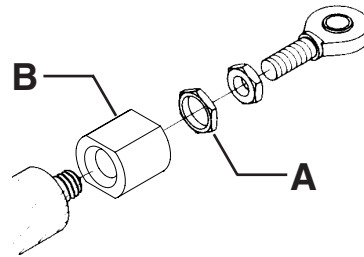

Fig. 43
3. Loosen jam nut **A** and adjust collar **B** IN to move boom out away from cab or OUT to move boom in toward cab. (See fig. 43)